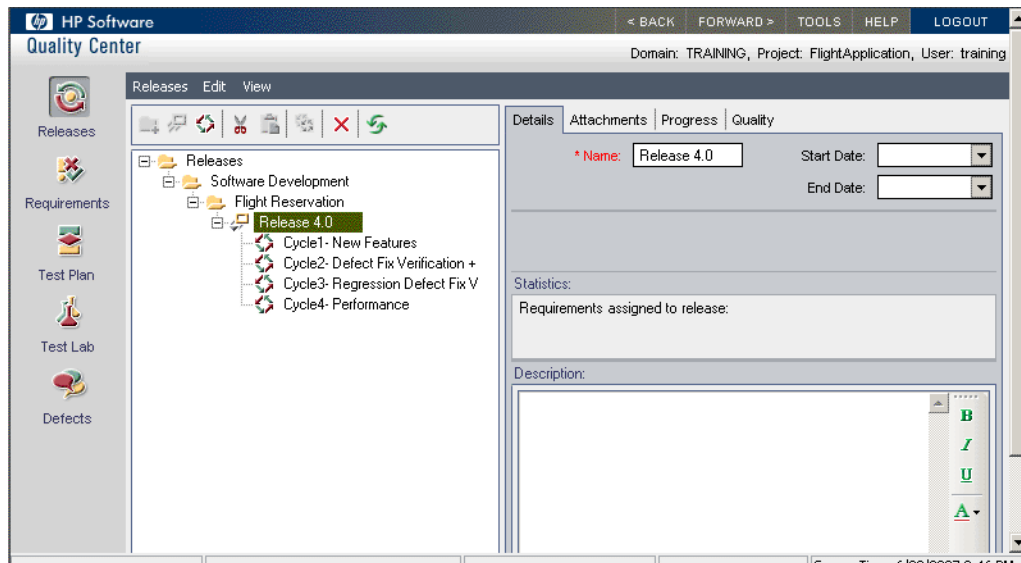

Figure 2-5 Release Tree for the Flight Reservation Application
9. Compare your release tree with the release tree shown in Figure 2-5.